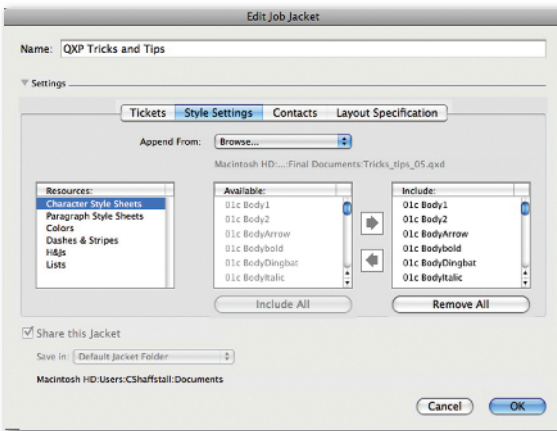

Figure 2
- 5** You may import a single style sheet or all style sheets at one time. For just one style sheet, double click on the title of the style sheet in the **AVAILABLE PANE**. It will now appear in the **INCLUDE PANE**. You can see my dialogue box in figure 2. After I imported that one style sheet, a color was automatically imported as well. I have two Pantone colors in these style sheets, so they are automatically included as well.